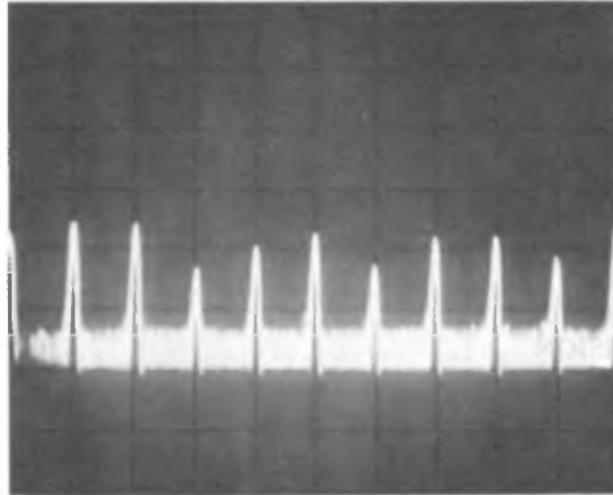

Figure 5-2. 500 MHz LO Linearity Display (ERRATA)
11. Repeat steps 8, 9, and 10 until 200 kHz comb teeth are aligned with graticule lines across full CRT display as shown in Figure 5-2 and THIRD LO OUTPUT frequency is within tolerance noted in step 10.